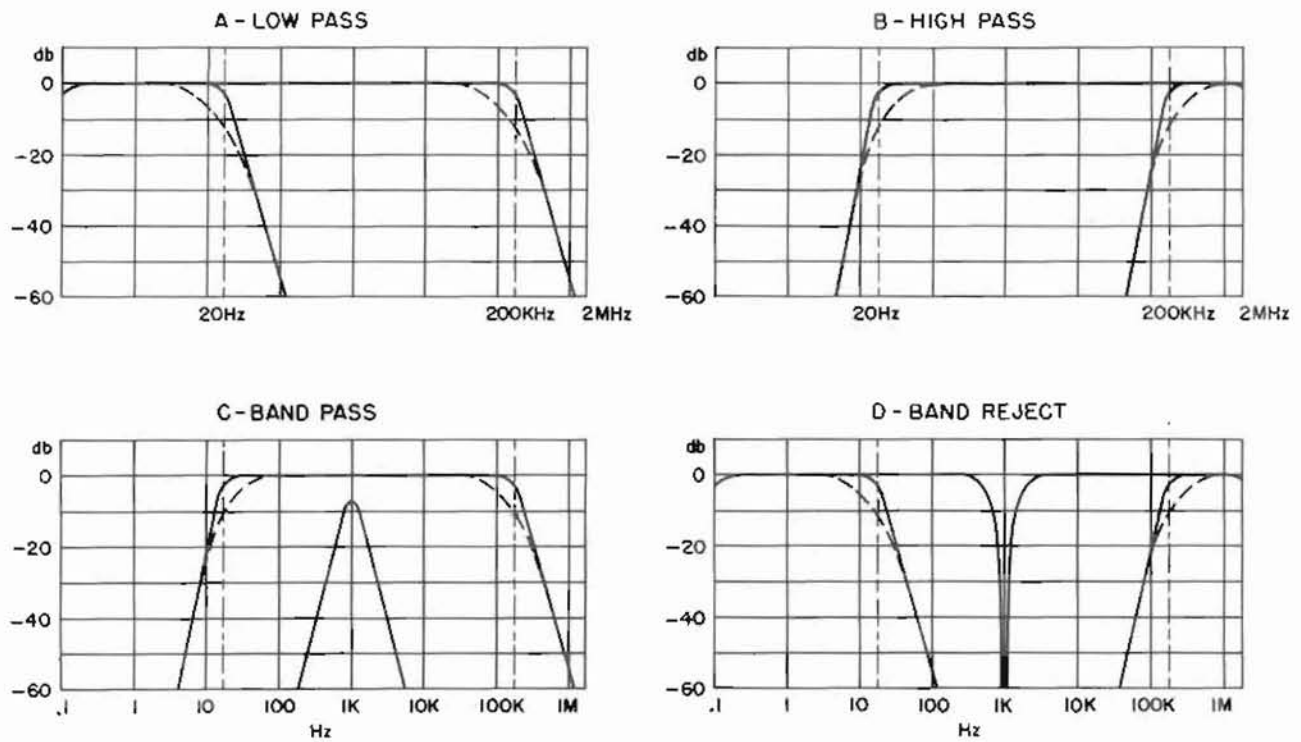
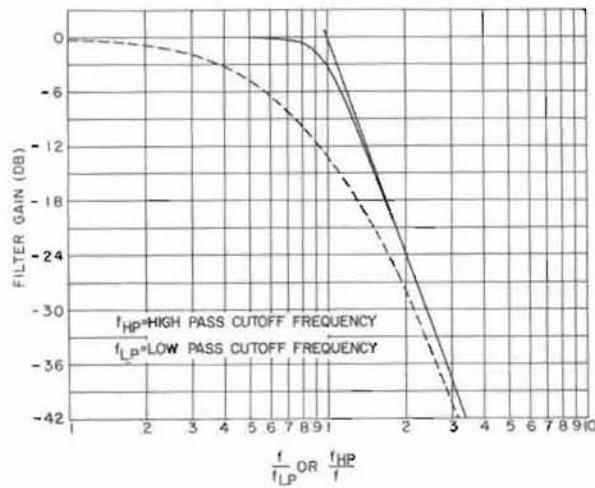
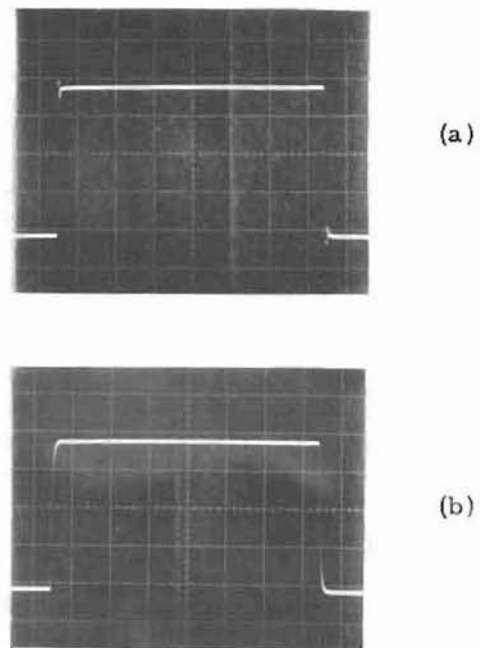

Figure 2-2. Pass Band Characteristics
Figure 2-3. Normalized Attenuation Characteristics
Figure 2-4. Square Wave Response
This response is plotted as the solid curves in Figure 2-2, curves A and B, and normalized on a larger scale as in Figure 2-3. It hugs the 0-dB line very closely with no ripples almost to the cutoff frequency, and then keeps close to the 24dB/octave asymptote, departing 1dB from these lines at f/f_o = 0.8 and 1.25 respectively.
The limitations of this type of filter are apparent in Figure 2-4(a) which shows the step-function response of a fourth order Butterworth low pass. For applications where this eleven percent overshoot cannot be tolerated, the Model 3550 provides the LOW Q position of the RESPONSE switch. In this mode the sharpness of the cutoff is reduced just enough to eliminate the step-function overshoot (see Figure 2-4(b)). The frequency response of the LOW Q mode is shown by the dotted curves in Figure 2-2 (curves A and B). Obviously, the cutoff is much less sharp, the attenuation at the corner is approximately 12 dB and the 1 dB points are at 0.2 and 5 times the cutoff frequency.
3. Referring to Figure 2-3: